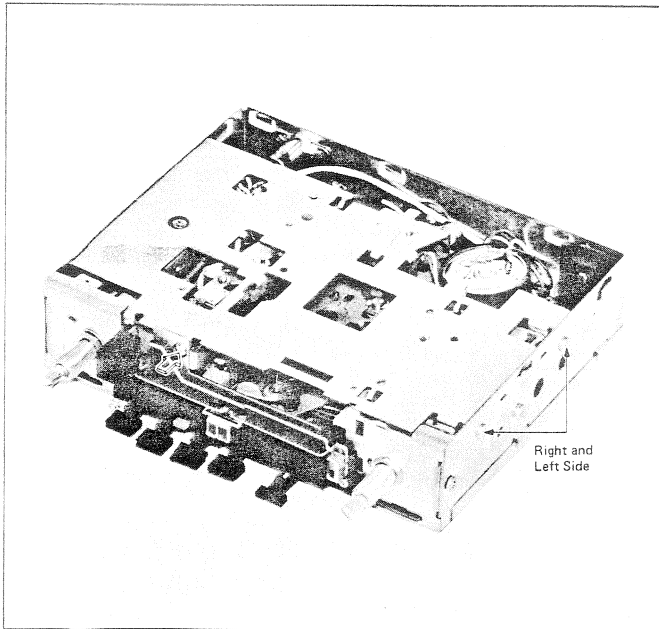

Figure 4-3
3. Remove the five screws retaining the Mechanism chassis at the right, left and front cabinet surfaces. (See Fig. 4-3)